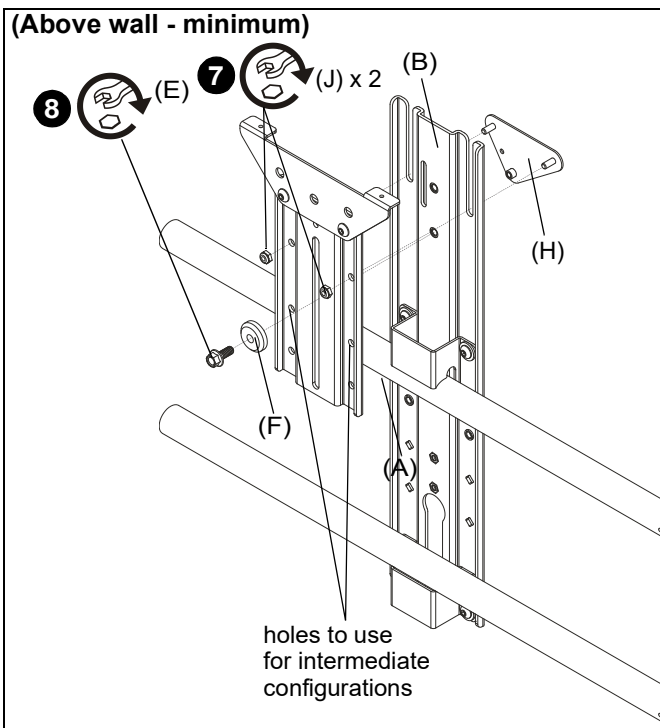

Figure 16
7. (For **minimum/intermediate extension**) Use two #10-24 lock nuts (J) to secure upright bracket (A) to main bracket (B) and adapter plate (H). (See Figure 16)
8. (For **minimum/intermediate extension**) Use 1/4-20 x 5/8" hex head flange bolt (E) and center washer (F) to secure upright bracket (A) to main bracket (B). (See Figure 16)